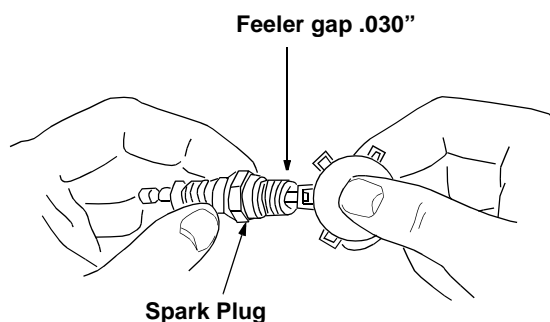

Figure 14
- Clean spark plug and reset gap to .030" at least once a season or every 50 hours of operation. See Figure 14. Spark plug replacement is recommended at the start of each season. Refer to engine parts list for correct spark plug type.